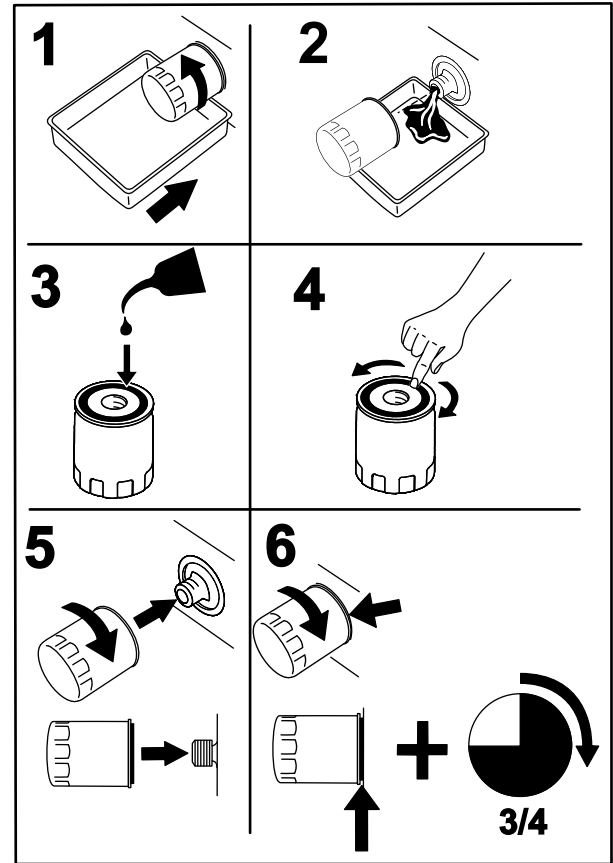

Figure 31
- Change the engine oil filter (Figure 31).